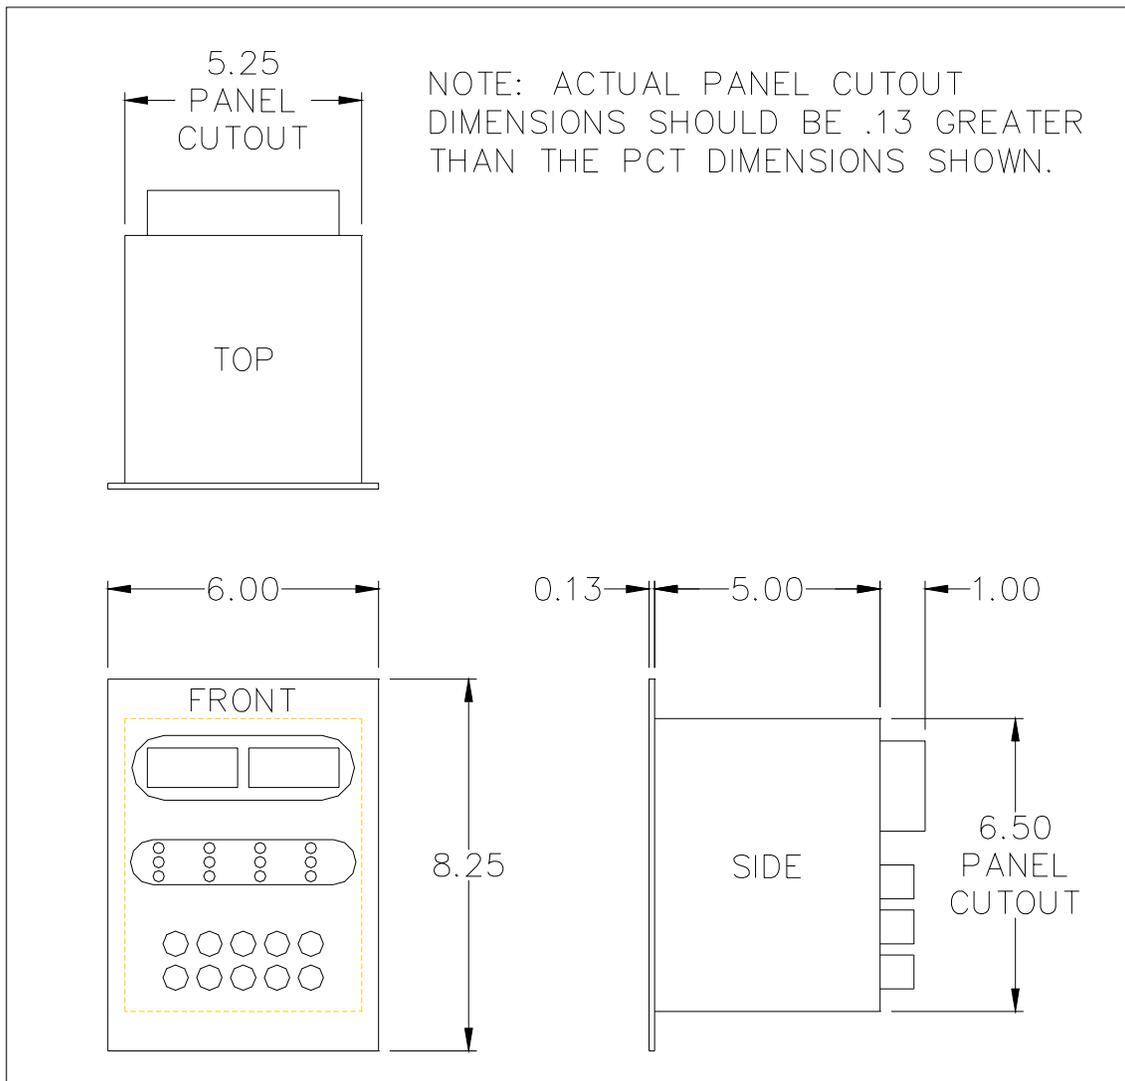
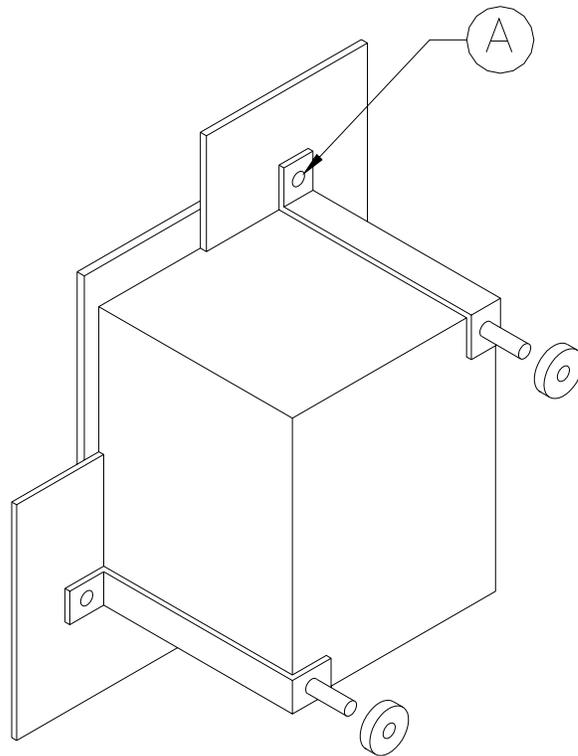

Figure 4.1 MICROTEMP PCT Panel Cutout Dimensions
Figure 4.2 MICROTEMP Installation Details
After determining the location of the PCT, refer to Figure 4.1 for cutout dimensions and Figure 4.2 for installation details.
4. Secure the PCT in the cutout by binding the cut out panel between the PCT facia and the mounting brackets, as shown in Figure 4.2.
**NOTE:** Do not over tighten the mounting brackets. Self-tapping screws may be used to secure the brackets to the panel, if desired. (Figure 4.2 "A")